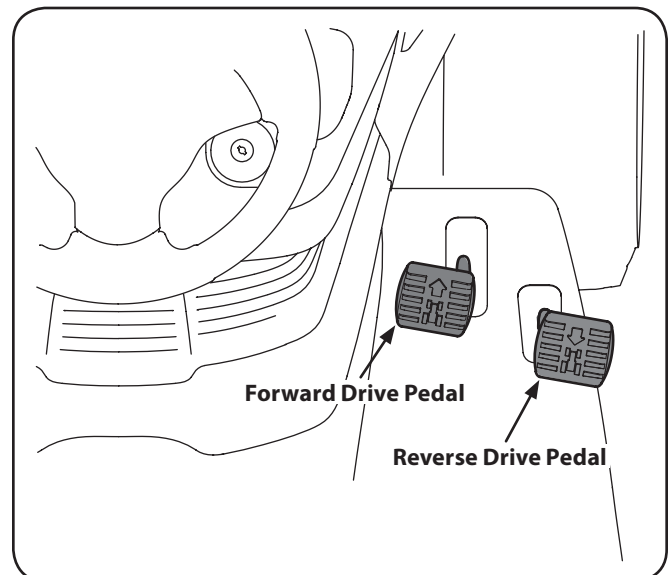

Figure 5-2
2. To travel FORWARD, slowly press the forward drive pedal  forward until the desired speed is achieved. See Fig. 5-2.
3. To travel in REVERSE, check that the area behind is clear then slowly depress the reverse drive pedal  until the desired speed is achieved. See Fig. 5-2.